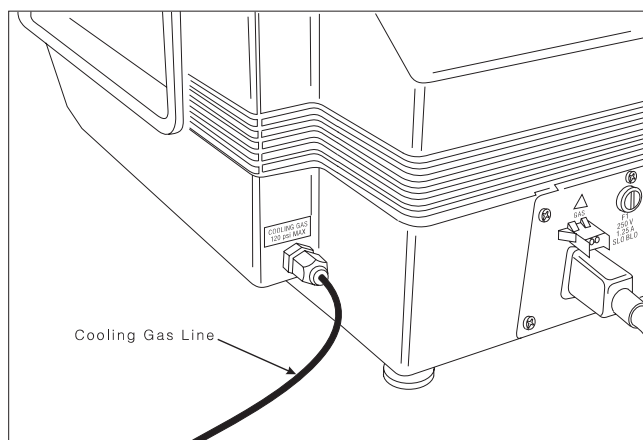

Figure 2.7
1. Locate the COOLING GAS fitting, a 6.2 mm (1/4-inch) compression fitting on the left side of the DSC 2910 back, marked with a 120 psi maximum warning label (see Figure 2.7).